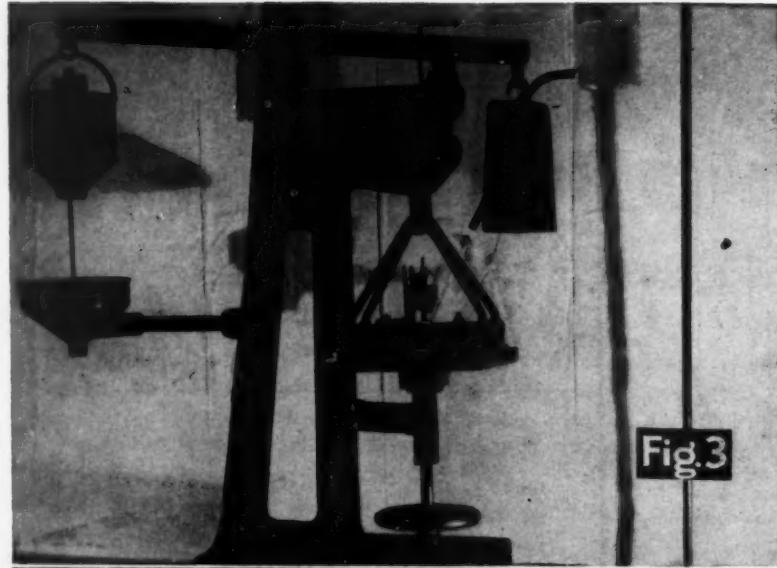

Fig. 3
**Apparatus and Procedure:** After curing, the assembly is placed in the holding device shown in Figure 2, (using the  $\frac{1}{2}$ " projections for handling). The holding device has previously been mounted in a Riehle Cement Testing Machine, as shown in Figure 3. An Ames Dial is mounted so that the actuating member projects through the hole in the top specimen and rests on the bottom specimen with the dial set at its mid-point. Space inside the assembly is then filled with water through the hole in the top, and kept full until the test is complete.